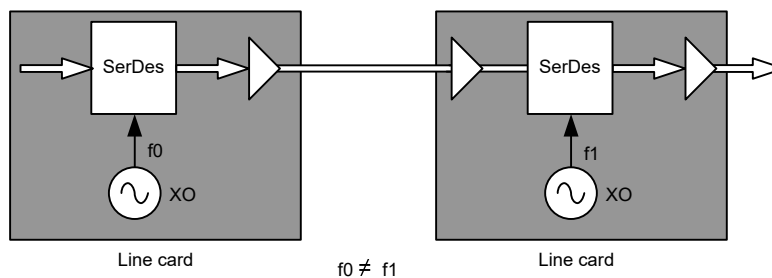

Figure 1. Example of Asynchronous Clocking
The simplest clock generation source is an oscillator (XO), which generates a single output frequency for a single component. XOs are oftentimes used in asynchronous applications, as shown in Figure 1. Each oscillator provides a local reference to maintain two independent clock domains. System operation requires XO frequencies be close but not identical. This architecture is ideal for burst-mode traffic applications. Continuous communication requires bit or packet stuffing and FIFO management to prevent overflow/underflow conditions. Video processing equipment and 10/100/1000BaseT Ethernet are examples of applications that use asynchronous clocking. XO selection should be based on the frequency, jitter and stability requirements of the end application.